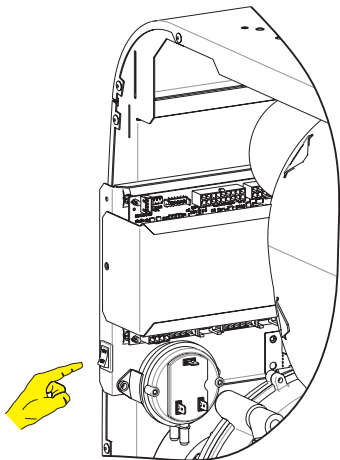

Figure 57
- B. Turn on the main electrical power to the wall furnace and turn on gas valve power switch. **See Figures 57 and 58.**